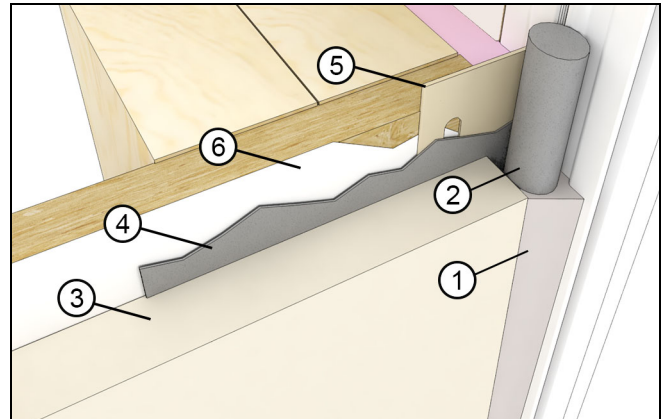
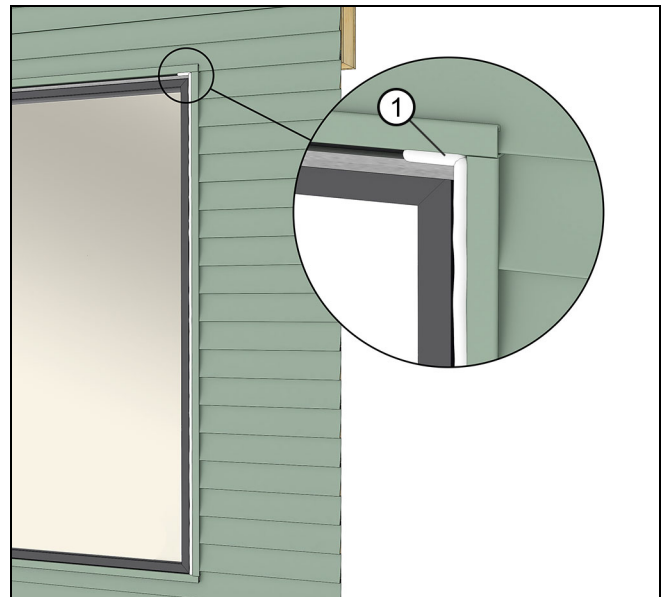

Figure 81
Figure 82
3. At the exterior, once the exterior finish such as siding or brick veneer is installed, apply a bead of sealant between the finish and the frame exterior along the sides. Apply additional beads approximately 1"-2" (25-51) at the ends on top of the head jamb flashing. Use a backer rod when necessary. See Figure 81 and Figure 82.